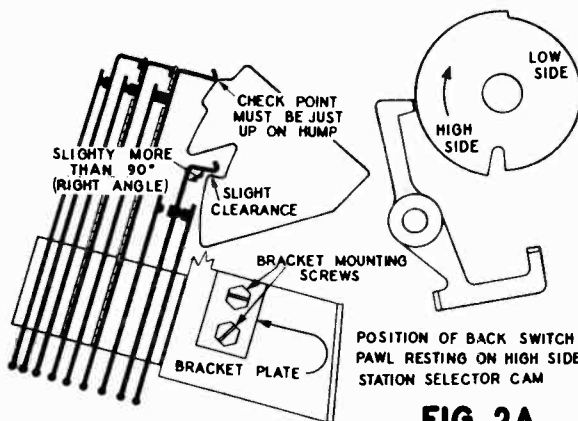
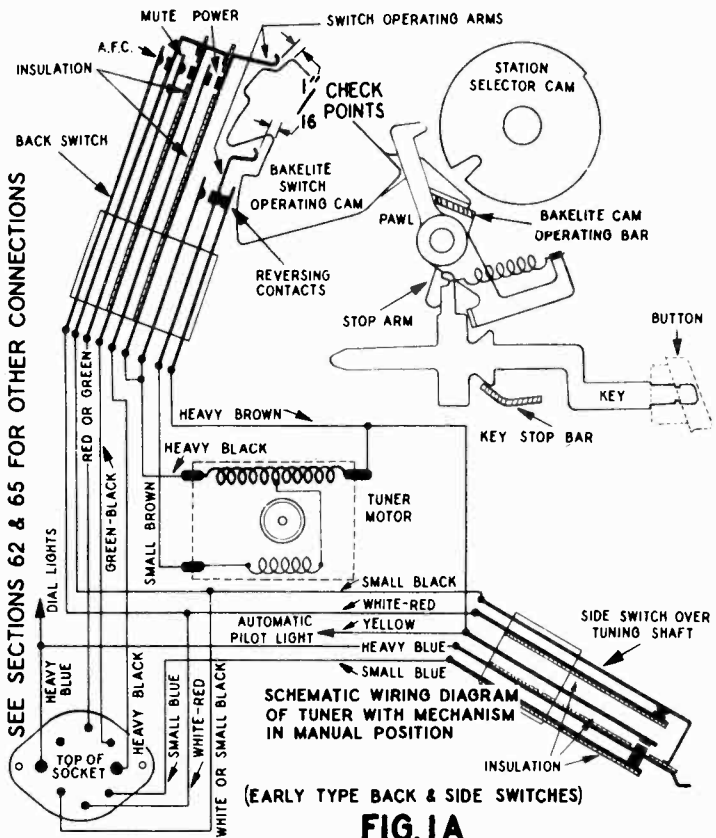

FIG. 2A
FIG. 1A
Two different types of Back Switches, and associated Bakelite Operating Cams, have been used. To determine whether the Switch is of the early or later type, notice the shape of the Bakelite Cam. The shape of the Bakelite Cam used on early units is shown in figure 1A; on later units it is shaped as in figure 1B. The various operating positions of the early type are shown in figures 1A, 2A, 3A and 4A. The positions of the later type are shown in figures 1B, 2B, 3B and 4B. Details of the correct settings for the early type are explained in sections 2 to 6. Details of the correct settings for the later type are explained in sections 8 to 12. MINOR ADJUSTMENTS OF THE BACK SWITCH TO SECURE THESE SETTINGS MAY BE MADE BY BENDING THE VARIOUS PLADES OF THE SWITCH.
2 Run the dial pointer to 530 KC. Turn the power off. With the mechanism in the manual position, the Back Switch Operating Arms should clear the Bakelite Cam by the amounts indicated in figure 1A. Push any button so that the Pawl falls on the high side of the Station Selector Cam. The Reversing Contacts Operating Arm should clear the Bakelite Cam as indicated in figure 2A. IF THESE CLEARANCES ARE APPROXIMATELY CORRECT, PROCEED WITH SECTION 3. However, if the clearances are not as shown, slight discrepancies can be corrected by bending the Arms, but if the entire switch seems to be out of position, loosen the Bracket Mounting Screws (Figure 2A) and move the entire Back Switch assembly to give the proper clearances.
a. With the Bakelite Cam down as in figure 2A, the center contact should make with the front contact, while with the Bakelite Cam pulled up as in figure 3A, the center contact should make with the Back Reversing Contact. After the instant of closing the blades should move slightly to show adequate contact pressure. **IMPORTANT:** Make sure that the center contact is not touching both the front and back contacts at any one time, since this may short circuit the 6-volt winding of the power transformer. If the Reversing Contacts do not make or break properly, bend the switch blades to secure proper operation.
b. With the dial pointer at 530 KC. push each button and make sure that the Reversing Contacts Operating Arm does not touch the Bakelite Cam. See figure 2A. The Pawl, in every case, should rest on the High Side of the Station Selector Cam.
4 Turn the Tuning Knob to release the depressed button. This puts the Bakelite Cam in the position shown in figure 1A. so the Power, Mute and A.F.C. contacts of the Back Switch can be checked as follows:
b. All three sets of contacts should be open approximately 1/64 to 1/32 of an inch. Move the Bakelite Cam up and down by hand and observe the action of the contacts. As the Bakelite Cam is moved up (to the position of figures 2A or 3A) all three sets of contacts should close. After the instant of closing the blades should move slightly to show adequate contact pressure.
a. Run the dial pointer to the low frequency end of the dial. Push any button so that the Pawl Falls on the High Side of the Station Selector Cam. The upper Back Switch Operating Arm should rest just up on the "hump" of the Bakelite Cam, at the "Check Point" shown in figure 2A. If the Operating Arm is not in this position, bend the Arm slightly to secure such setting. If the Operating Arm is down off the "hump", the Power, Mute or A.F.C. contacts may remain closed after a station is tuned in. If
13 The Bakelite Cam may stick because of improper adjustment of the Back Switch. The clearances shown in figures 1A or 1B should be maintained. This prevents too much pressure by the Back Switch Operating Arms against the Bakelite Cam. See paragraph 4a or 10a. Other causes for the Bakelite Cam to stick are; rough edges on the Bakelite, and insufficient tension in the Bakelite Cam Return Spring (figure 13). Tension in the Return Spring may be increased, if found necessary, by simply cutting off a few turns and forming a new hook on the end.
The extra blade in the early Side Switch was used to switch the Visual Tuning Indicator light on during Manual tuning and off during Automatic Tuning. With the later Side Switch this light remains on during both Manual and Automatic tuning. In addition, with the later side switch the 6 volt line and Motor-Automatic light circuit wires were reversed. See figure 1A and 1B for circuit difference.